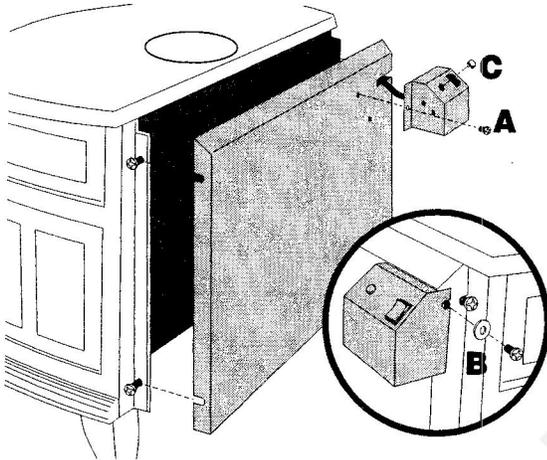

Figure 19. Remove the rear shroud and switchbox.
- 1. Remove the rear shroud.** Fig. 19.
- 2. Remove the switch box.** Figs. 19.
1. **Remove the rear shroud.** Fig. 19, page 13.